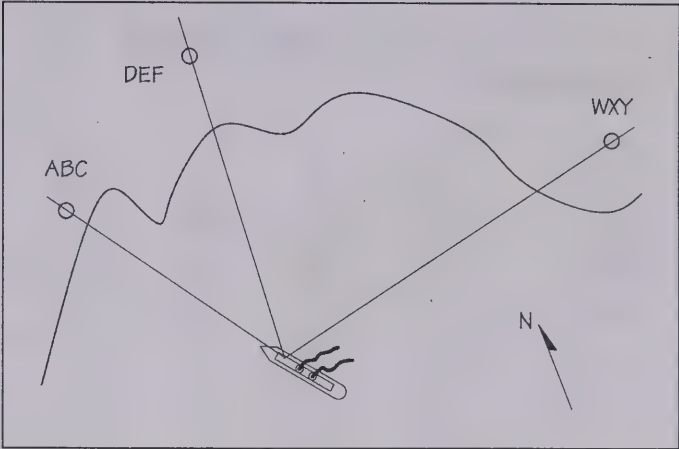

Figure 1: Example of radio direction finding using three LF beacons.
Carey². The LWCA's monthly publication, *The LowDown*, also contains information on below-the-broadcast-band beacons and the hobby of hunting for them. Figure 1 illustrates one method of radio direction finding, RDF, using beacons. The shipboard operator determines the angular direction (bearing) to two or more beacons using a directional antenna. The angles are plotted on transparent paper superimposed on a map which shows the locations of the beacons. It goes without saying that there will be only one place in the world that will have those bearings to those particular beacons.
- ³ George Kamas and Michael A. Lombardi, "NIST Time and Frequency Services," *NIST Special Publication 432* (revised 1990), U.S. Government Printing Office, Washington, DC, Figures 1 and 2, pages 2-3.